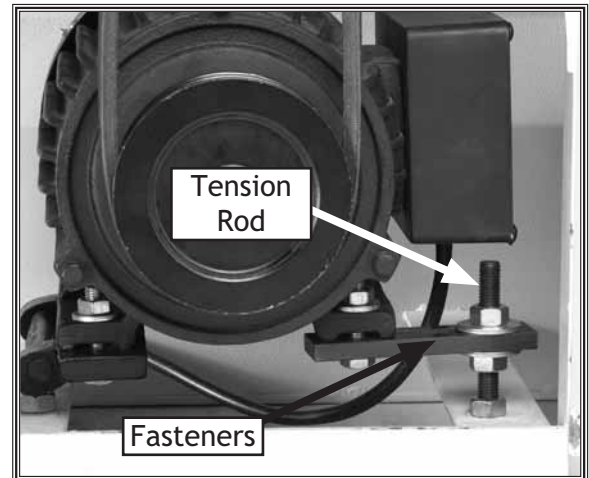

Figure 57. Fasteners needed to be loosened for V-belt replacement.
3. Loosen the fasteners on the tension rod that hold the motor to the bracket (**Figure 57**).